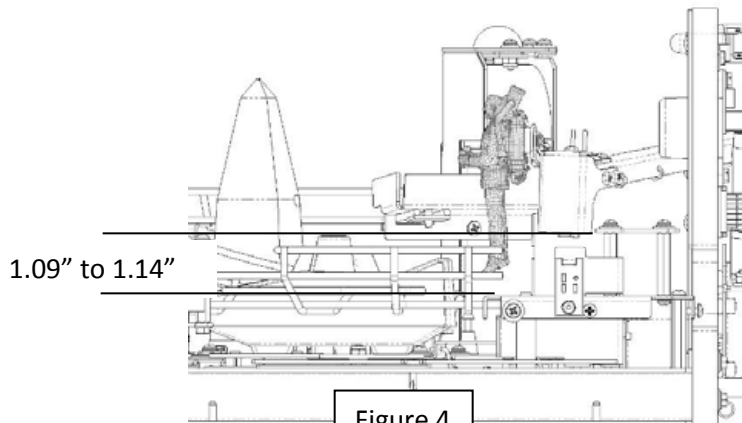

Figure 4
5. The tip of the magnet core should be in between 1.09" and 1.14" from the floor of the ramp. See Figure 4.